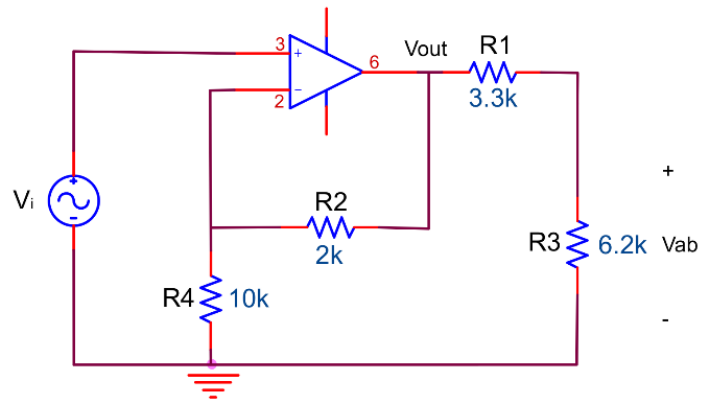

Figure 9.4
3. Calculate the voltage V_{ab} across the 6.2k ohm resistor in Figure 9.4.